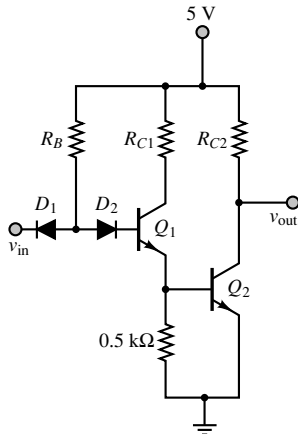

Figure P10.47
10.47 For the inverter of Figure P10.47, $R_B = 5 \text{ k}\Omega$ and $R_{C1} = R_{C2} = 2 \text{ k}\Omega$. Find the minimum values of β_1 and β_2 to ensure that Q_1 and Q_2 saturate when v_{in} is high.
10.48 For the inverter of Figure P10.47, $R_B = 4 \text{ k}\Omega$, $R_{C1} = 2.5 \text{ k}\Omega$, and $\beta_1 = \beta_2 = 4$. Show that Q_1 saturates when v_{in} is high. Find a condition for R_{C2} to ensure that Q_2 also saturates.